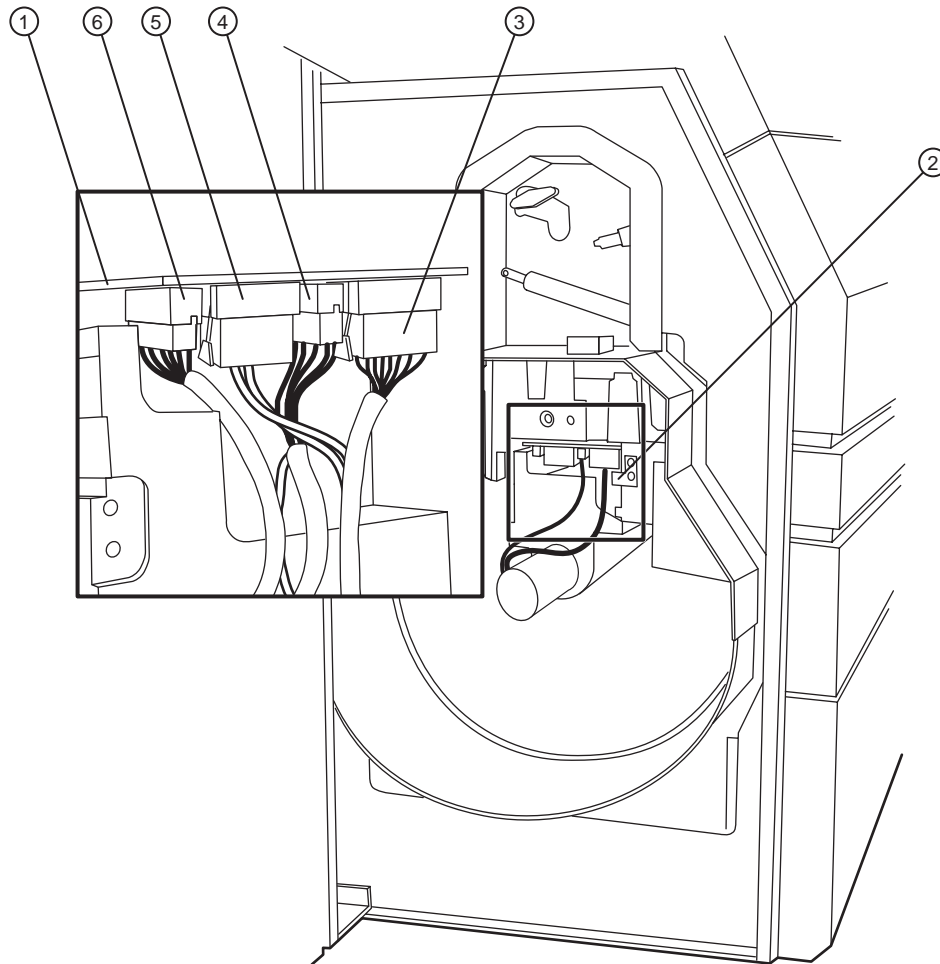

Figure 4-20 Carriage sensor driver module PCB (CSDM) (left side).
- ①—LDM cable. ②—Flex cable connector. ③— CSDM PCB.
- ④—SGM Sensor Connector. ⑤—SGM motor connector.
- ⑥—Digital encoder connector.
5. On the left side of the system, disconnect the spin motor cable, spin motor encoder cable, carriage motor cable and analog encoder cable from the CSDM PCB. Refer to Figure 4-20.
- ①—CSDM PCB. ②—3/16" hex screws and retaining clip.
③—Spin motor cable connector. ④—Spin motor encoder cable connector.
⑤—Carriage motor cable connector. ⑥—Analog encoder cable connector.
6. Remove the two (2) 3/16" hex screws and retaining clip securing the CSDM to the carriage assembly. Refer to Figure 4-20.